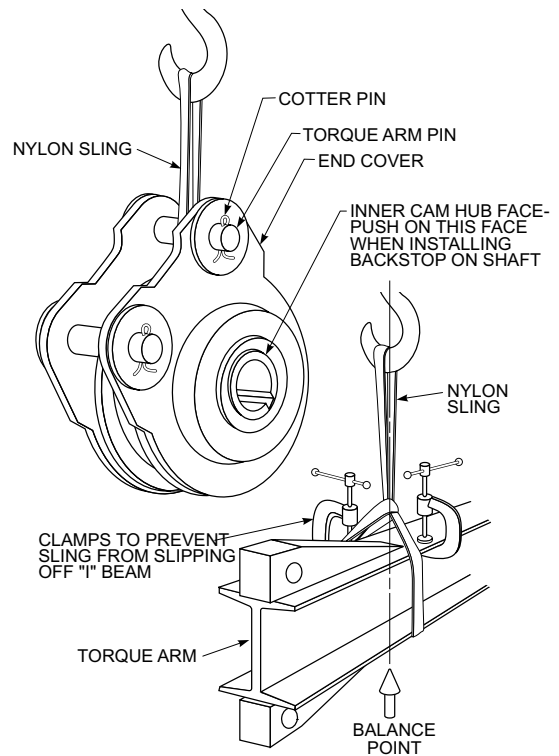

Figure 5
4. Refer to Figure 5, page 5. Lift backstop and slide it onto shaft. Apply axial force only to the inner cam face of the backstop. The backstop must be positioned to meet certain minimum engagement requirements which vary with backstop and bore size. Minimum required engagement is determined by the GREATER distance of:
1. Lift torque arm as shown in Figure 5, page 5, and attach it to the backstop with torque arm pins and cotter pins supplied with backstop. Lock cotter pins.